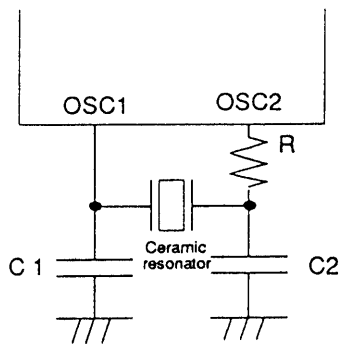

Fig. 2 Ceramic Oscillator Circuit
- Note: 1. The LC65E1104 will accept input voltages up to the generated oscillator amplitude if the oscillator circuit in figure 2 with circuit constants in the guaranteed constants ranges is driven internally.